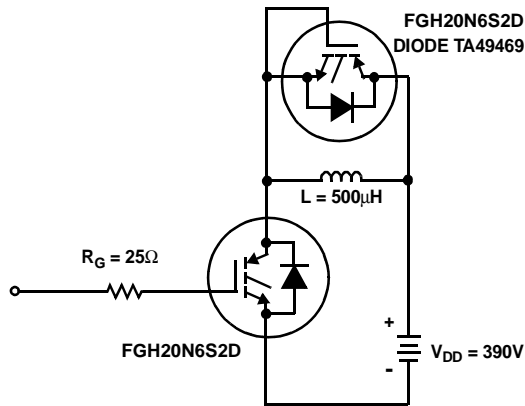

Figure 26. Inductive Switching Test Circuit
| $t_{d(ON)I}$ | Current Turn-On Delay Time | IGBT and Diode at $T_J = 25^\circ\text{C}, I_{CE} = 7\text{A}, V_{CE} = 390\text{V}, V_{GE} = 15\text{V}, R_G = 25\Omega, L = 0.5\text{mH}$ Test Circuit - Figure 26 | - | 7.7 | - | ns | | |
| $t_{d(ON)I}$ | Current Turn-On Delay Time | | IGBT and Diode at $T_J = 125^\circ\text{C}, I_{CE} = 7\text{A}, V_{CE} = 390\text{V}, V_{GE} = 15\text{V}, R_G = 25\Omega, L = 0.5\text{mH}$ Test Circuit - Figure 26 | - | 7 | - | ns | |
1. Values for two Turn-On loss conditions are shown for the convenience of the circuit designer. E_{ON1} is the turn-on loss of the IGBT only. E_{ON2} is the turn-on loss when a typical diode is used in the test circuit and the diode is at the same T_J as the IGBT. The diode type is specified in figure 26.